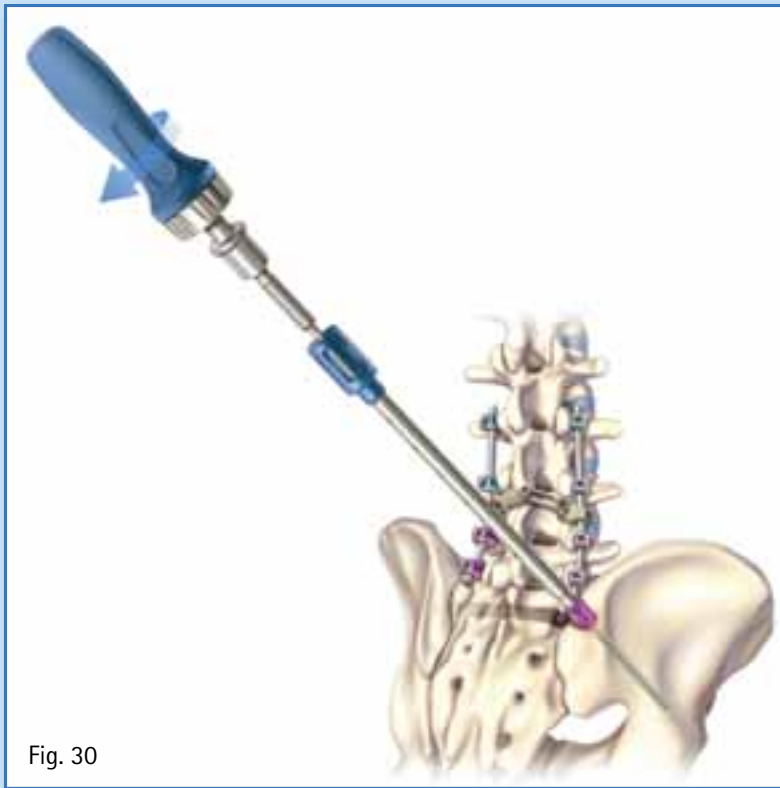

Fig. 30
- Attach desired handle to polyaxial screwdriver (FW277R) and thread the screw into the ilium. (Fig. 30)